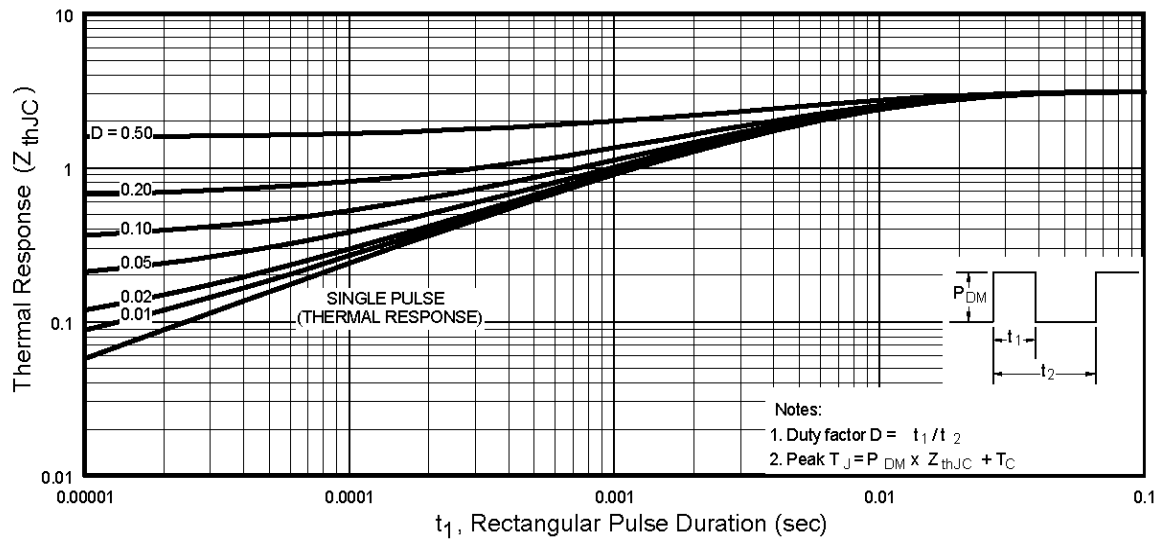

Fig 11. Maximum Effective Transient Thermal Impedance, Junction-to-Case
- ① Repetitive rating; pulse width limited by max. junction temperature. (See fig. 11)
- ② $V_{DD} = 25V$, starting $T_J = 25^\circ\text{C}$, $L = 4.7\text{mH}$